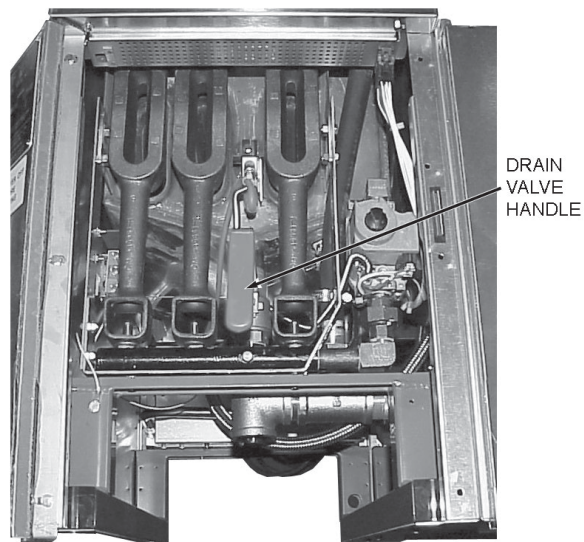

Fig. 11
3. Drain tank by opening the drain valve (Fig. 11) located inside the cabinet door.